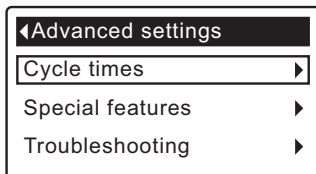

FIG. 51
3. Press the SELECT (O) button to display the Advanced settings menu (See Figure 51).